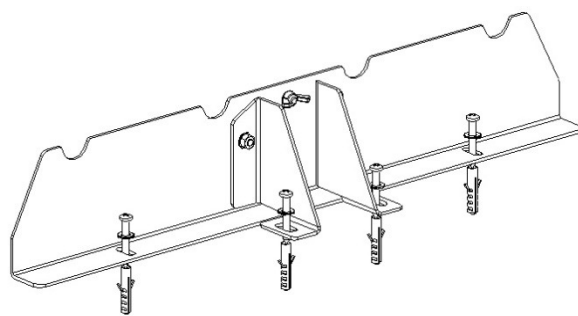

Figure 5
c) Mark the center of the Front Support and drill using a $\text{Ø}6\text{mm}$ Wídea (Concrete) drill bit. Secure it with the included anchors and screws as shown in Figure 5.